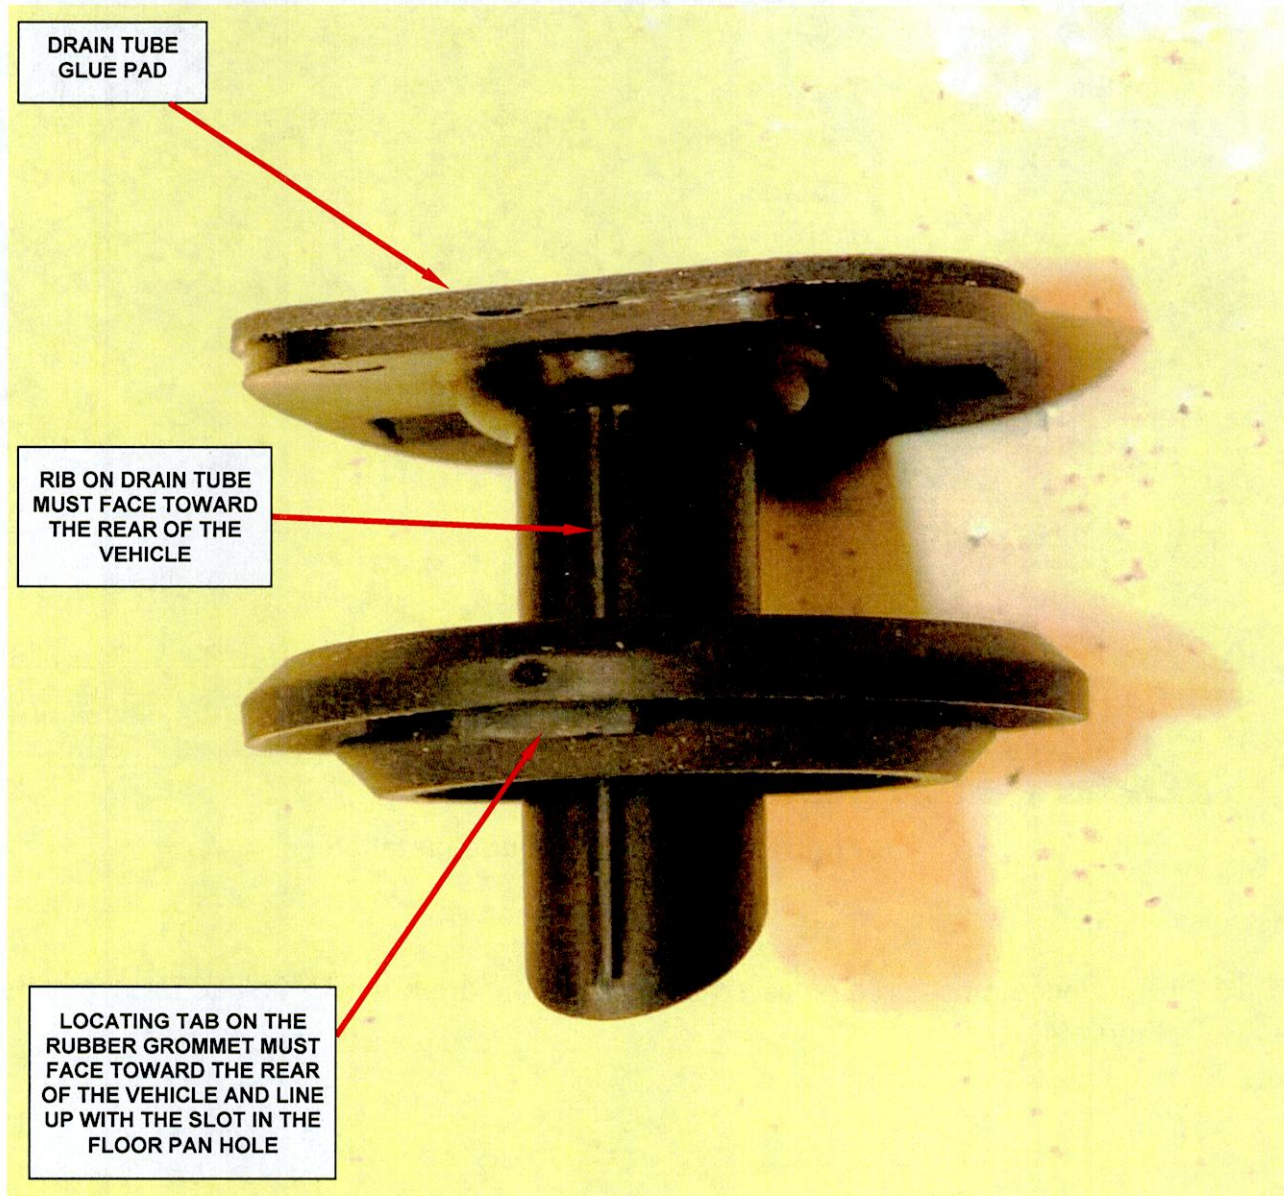

Figure 4 – New HVAC Drain Tube and Grommet
14. Assemble the new HVAC drain tube and grommet, as shown in Figure 4, before installing into the vehicle. The square locator and rib on the HVAC drain tube and grommet must face rearward when installed in the vehicle.
16. Using needle nose pliers, carefully remove the drain tube glue pad release paper (Figure 4).